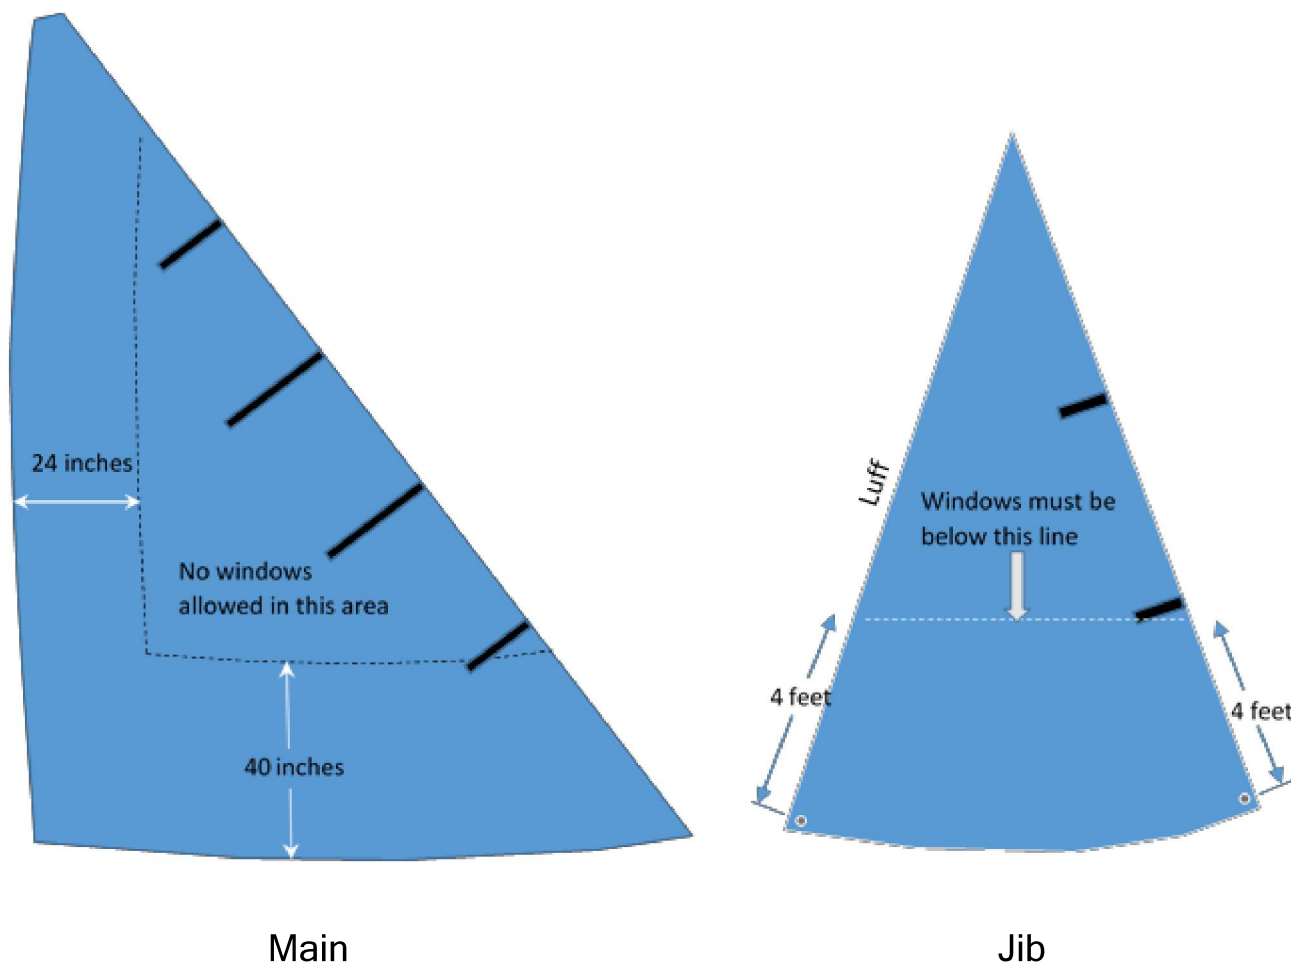

Figure 7 Definition of main and jib allowable areas for window placement
- vi. Windows can be a material that is either completely clear, or may contain reinforcement fiber of any material. Reinforcing fiber must be less than or equal to 0.05" diameter and can be any series of straight lines either crossing each other or non-crossing. Fiber lines may only run in one, two, or three different directions. The fibers shall have a distance between parallel fibers no less than 1.5 inches. A maximum of 21 ft² (total) window area is permitted with a maximum of any single window being 6.5 ft². Windows must be located within the boundary defined by a parallel line that is 24 inches from the free edge of the mast bolt rope and a parallel line that is 40 inches from the free edge of the boom bolt rope (Figure 7).
- iv. Windows can be a material that is either completely clear or may contain reinforcement fiber of any material. Reinforcing fiber must be less than or equal to 0.05" diameter and can be any series of straight lines either crossing each other or non-crossing. Fiber lines may only run in one, two, or three different directions. The fibers shall have a distance between parallel fibers no less than 1.5 inches. A maximum of 5 ft² (total) window area is permitted with a maximum dimension of a single window being not more than 40 inches in any direction. Windows cannot extend higher than a line drawn between a point that is 4 feet up from the center of the luff grommet (measured along the luff) and 4 feet up from the center of the clew grommet (measured along the leech – Figure 7).